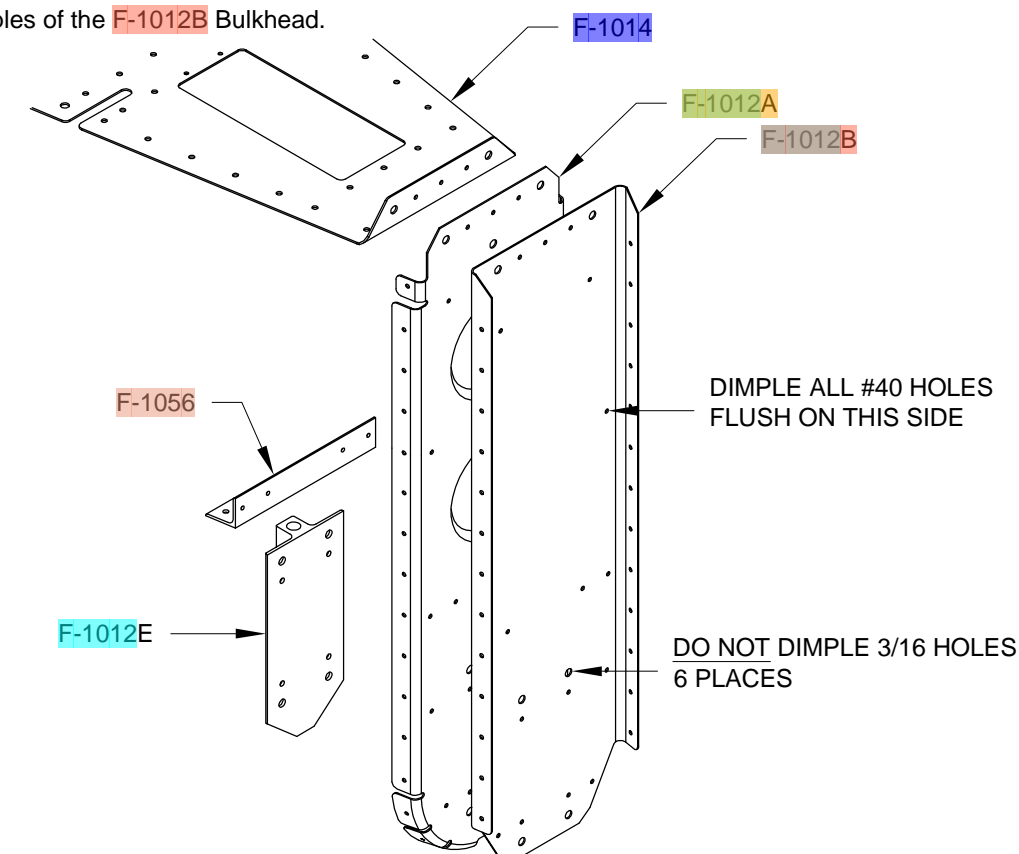

FIGURE 3: DIMPLING THE F-1012 BULKHEAD AND RELATED PARTS
Step 7: Dimple all the #40 holes in the F-1012B Bulkhead for 3/32" flush rivets and the four #30 holes (common to the F-1012E Tie Down Bar) for 1/8" flush rivets. The rivets are flush on the aft side of the bulkhead as shown in Figure 3. DO NOT dimple the six 3/16" holes.
Step 9: Dimple the six #40 holes in the flange of the F-1055 Rudder Stop Skin Stiffeners (see Page 10-8, Figure 3).